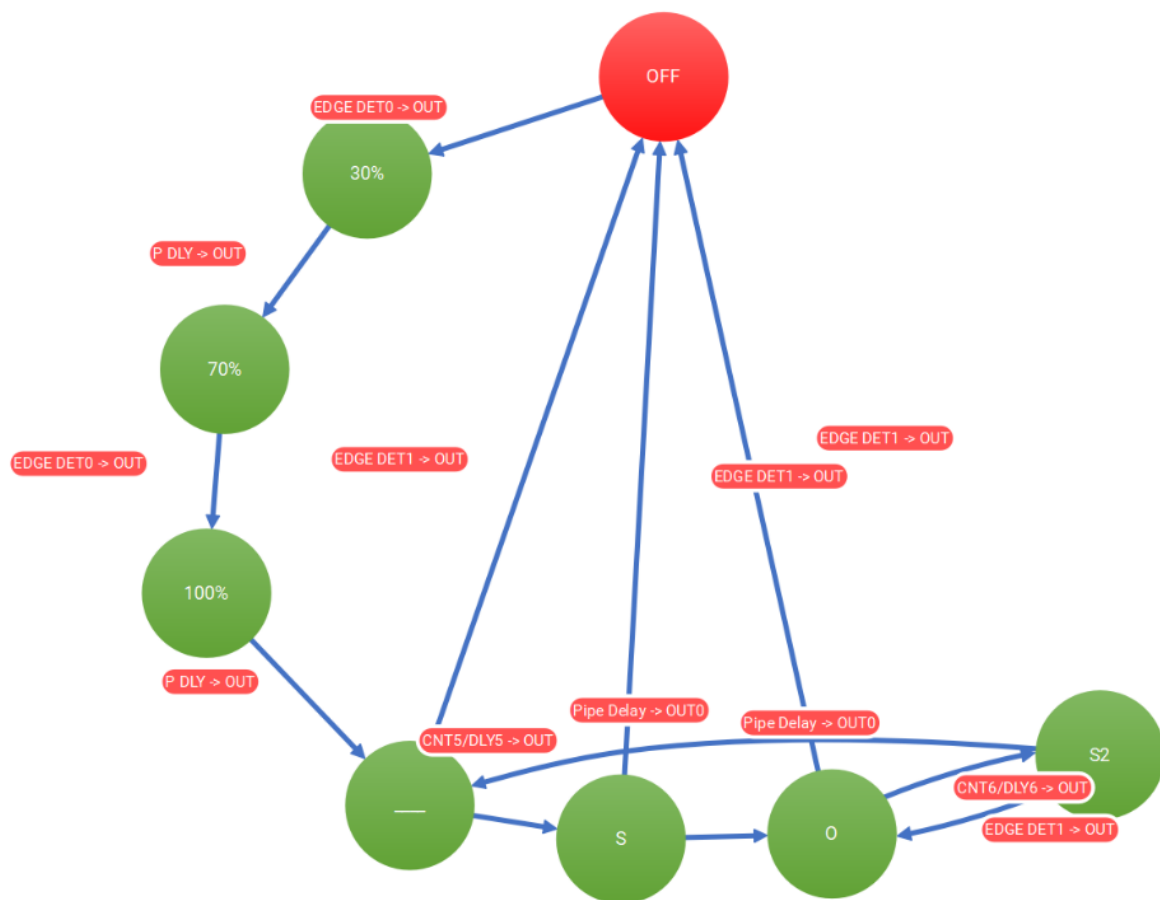

Figure 1. ASM state diagram design
- Figure 1. ASM state diagram design4